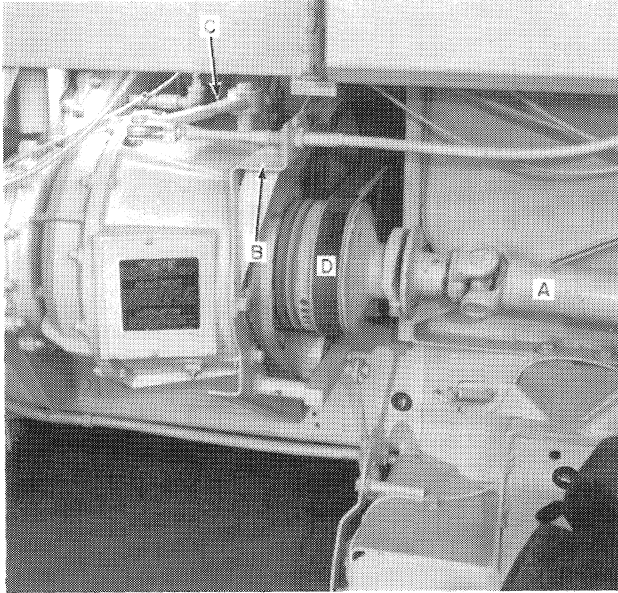

FIGURE 2-1
2. MODELS 1900/2100 - Remove the drive shaft, A, Figure 2-1, by removing the shear bolts and unbolting the shaft at A, Figure 2-2.
3. MODELS 1900/2100 - Remove clutch cable and mounting bracket, B, Figure 2-1. Remove the engaging lever, C.